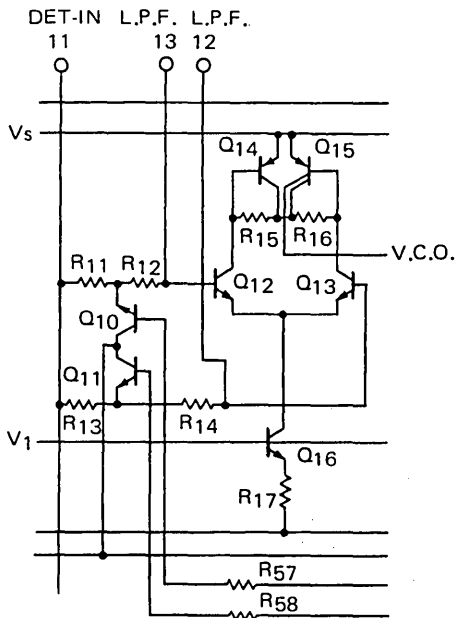

Fig. 8 Phase Detector and DC Amplifier.
Fig. 8 shows the phase detector and DC amplifier. The 19kHz signal obtained through the dividing circuit will switch the pilot signal of the stereo signal coming into terminal (11), and will supply a DC voltage proportional to the phase difference of these to the DC amplifier composed of Q12 to Q16. When the phase difference of the 19kHz signal and pilot signal, entering the phase detector, is 90° the control voltage of the PLL circuit will be 0. When the phase of the 19kHz signal advances from the above, a positive control voltage will be produced, and when the 19kHz phase lags a negative control voltage will be produced.